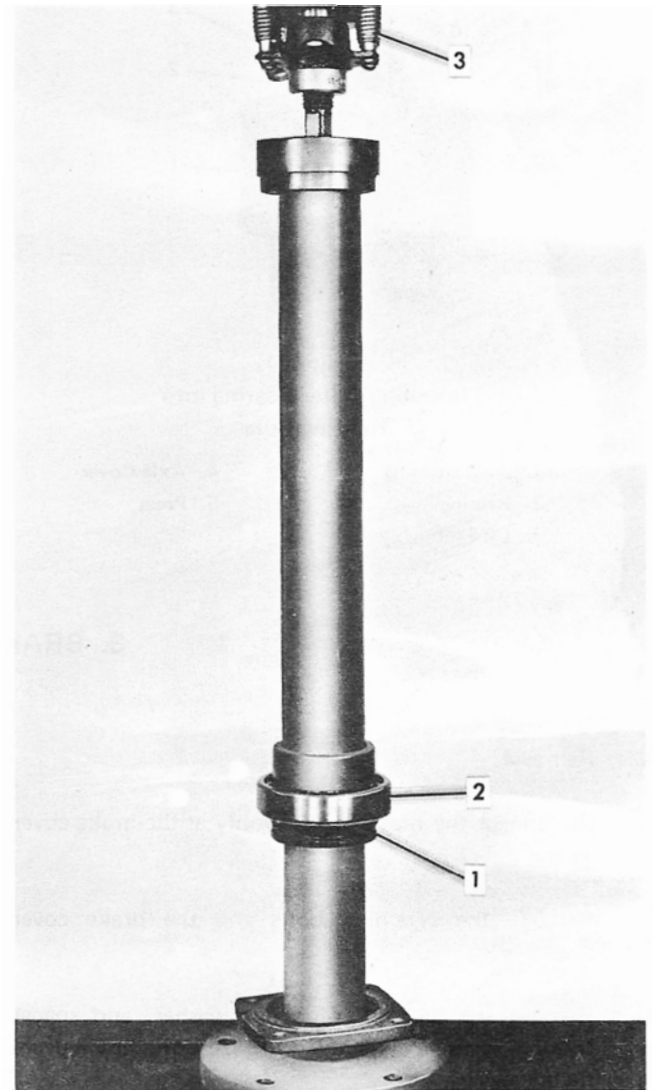

Figure 20
2. Using a suitable press, see Figure 20, install the outer bearing onto the axle shaft and secure in place with the lock-washer and lock nut.